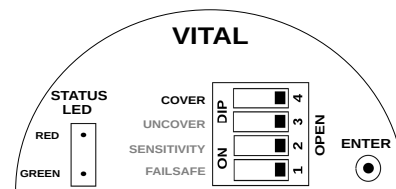

Figure 13: Saving Cover Delay
- Delay is entered, but not saved. To save and test the Cover Delay, set the COVER switch back to OPEN position as shown in Figure 13.